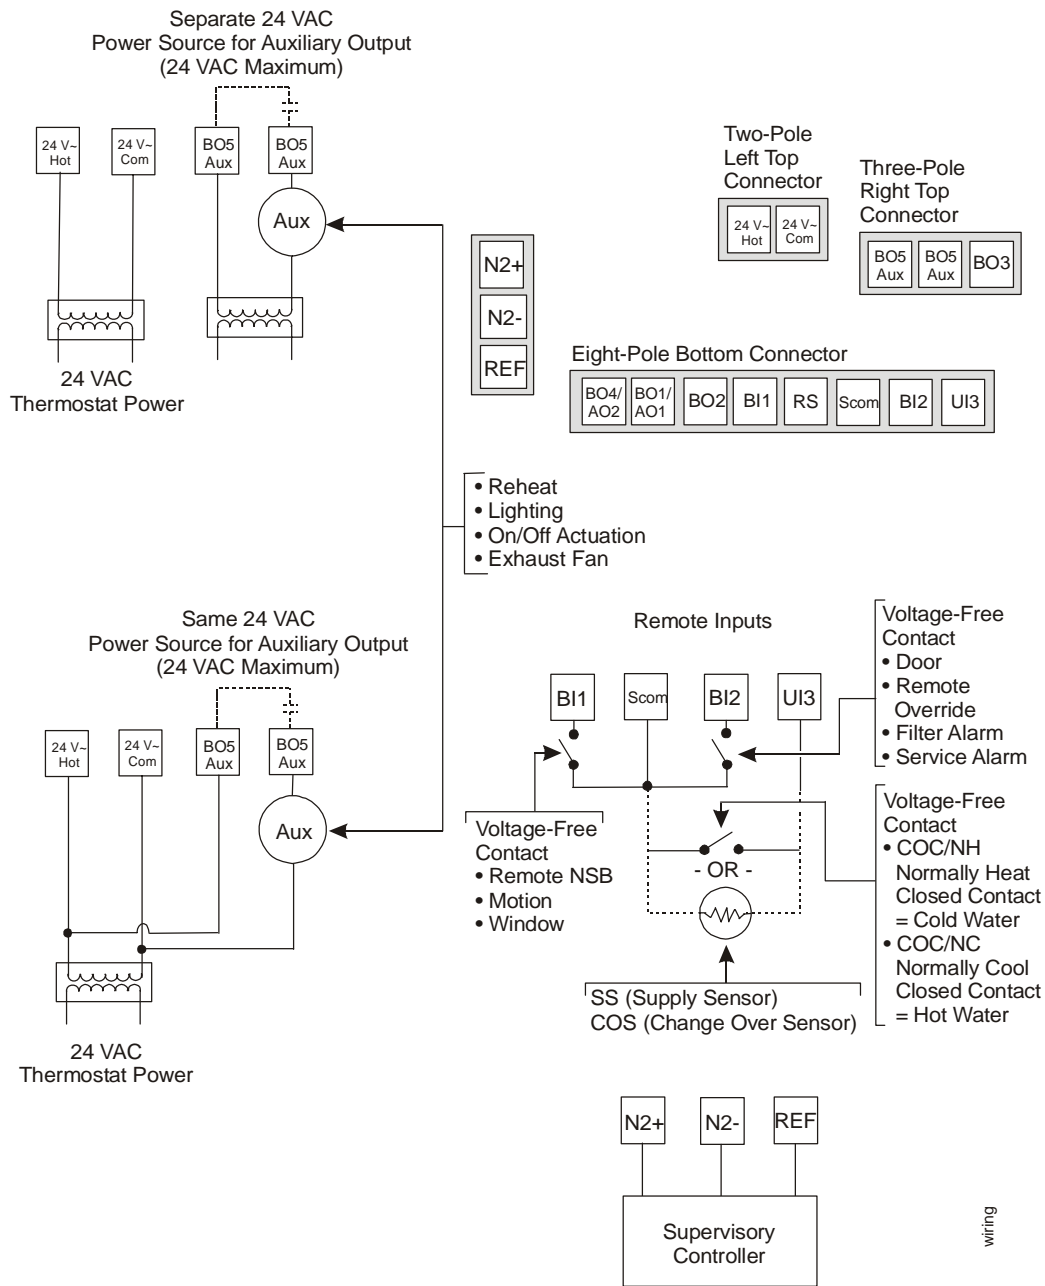

Figure 5: Wiring the TEC21x7-2 Series Thermostat (See Table 1.)
1. Strip the ends of each wire 1/4 in. (6 mm) and connect them to the appropriate screw terminals as indicated in Table 1 and Figure 5 through Figure 18.
Table 1: Terminal Identification (See Figure 5.)